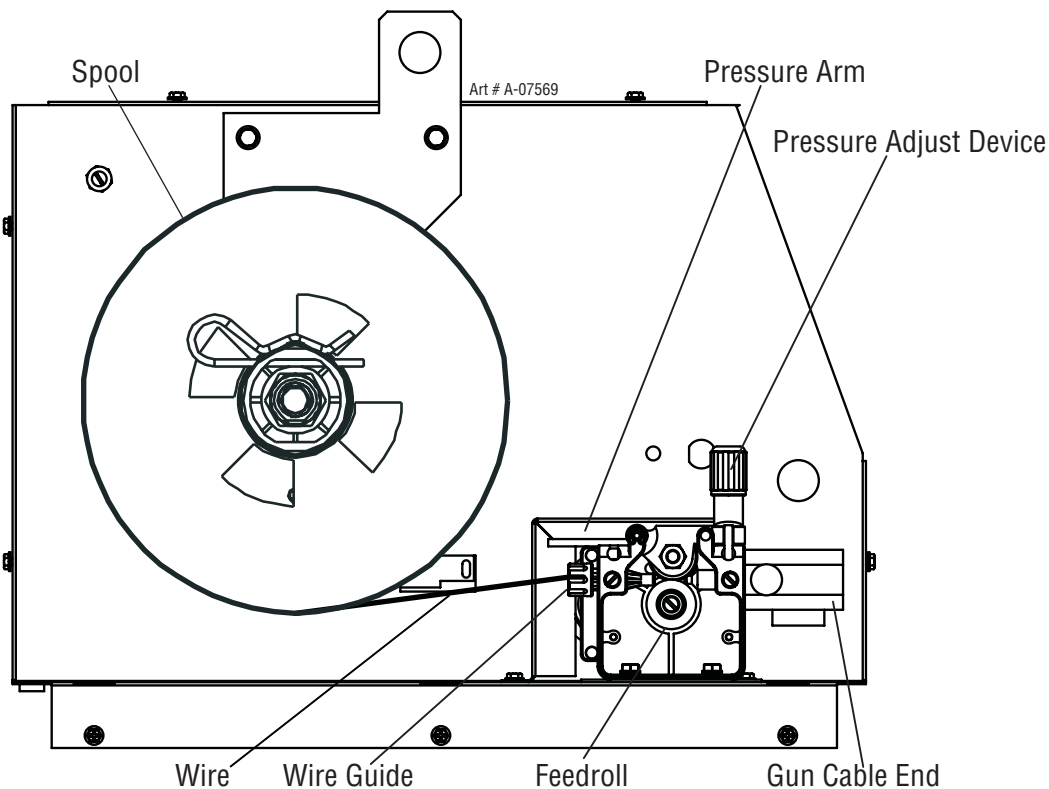

Figure 3-8: Inner Workings of Device
1. Loosen Pressure Adjust Device knob (Fig. 3-8)